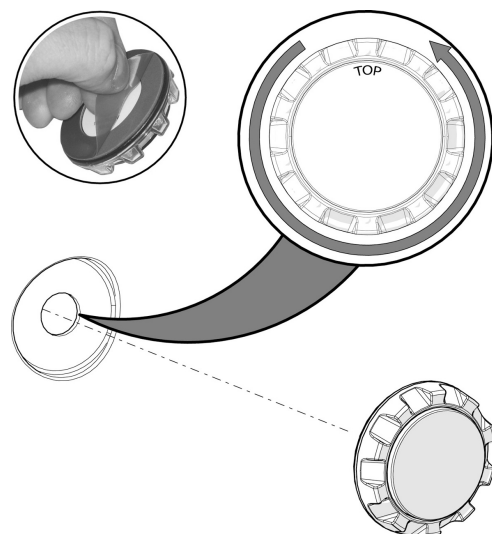

Figure 463. Remove the protective tape and rotate the light/turn signal until the text "TOP" is pointing straight upwards.
2. Rotate the light or turn signal until the text TOP is pointing straight upwards and position the turn signal on the rear cover. Press it against the rear cover until the double sided tape sticks on to the cover. See fig. 463.